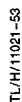

FIGURE 10. Timing Diagram for One A/D Conversion ADC0851/ADC0858
The timing diagram for one A/D conversion is shown in Figure 10. After \overline{CS} goes low, the input word (DI) is clocked in starting at the first rising edge of the digital clock signal, CLK. The first four bits of the input word configure the device for "one A/D conversion" mode while the following four bits (channel information address) assign the configuration of the MUX as per Table V(a) and (b) for the ADC0851 and the ADC0858 respectively. Any input data following the channel information address is ignored until the device's mode of operation is changed.
Note that the output will be TRI-STATE if \overline{CS} remains low after I0 is transmitted. Taking \overline{CS} high after the output data is transmitted causes the device to initiate the start of the next A/D conversion on the same input while ignoring the data input word (DI). If the duration for which \overline{CS} is high is less than seventeen OSC clock periods, the conversion process will be interrupted and the device will look for the mode address at the falling edge of \overline{CS} so as to configure to a new mode of operation. However, if \overline{CS} is high for eighteen or more OSC clock periods then the conversion operation will continue from point A on the timing diagram (Figure 10).